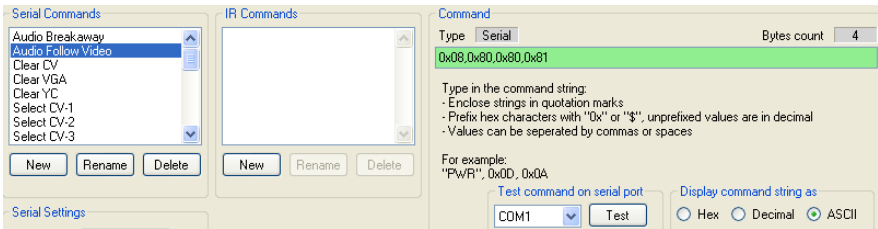

Figure 13: Writing the Serial Commands
2. Type the new command name: A Serial command type area appears, as illustrated in Figure 13.